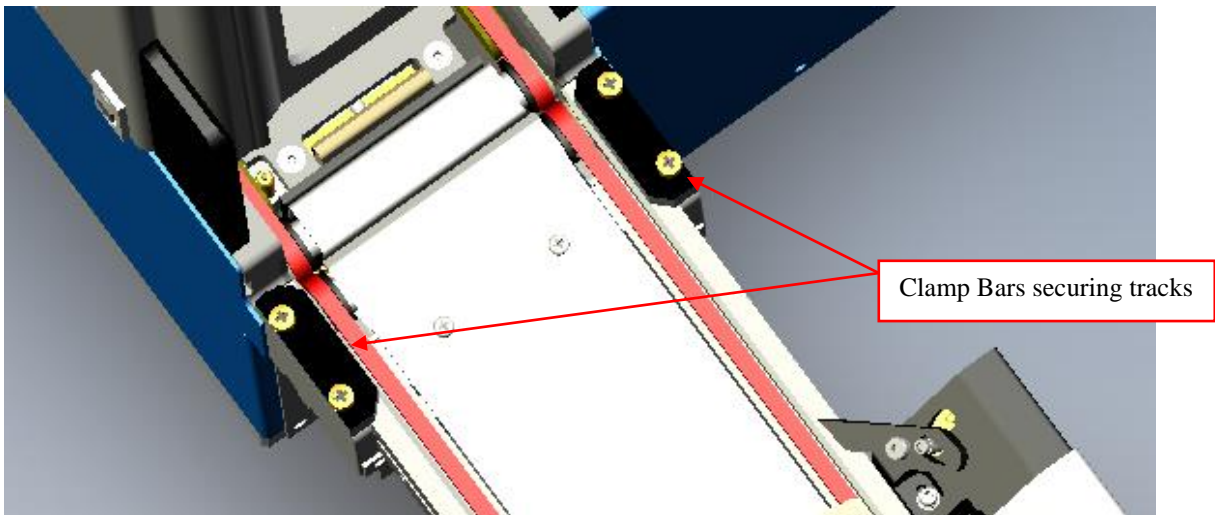

Figure 11
- Secure the track with the included Clamp Bars (Figure 11). Repeat if connecting an additional TrackLink if required.